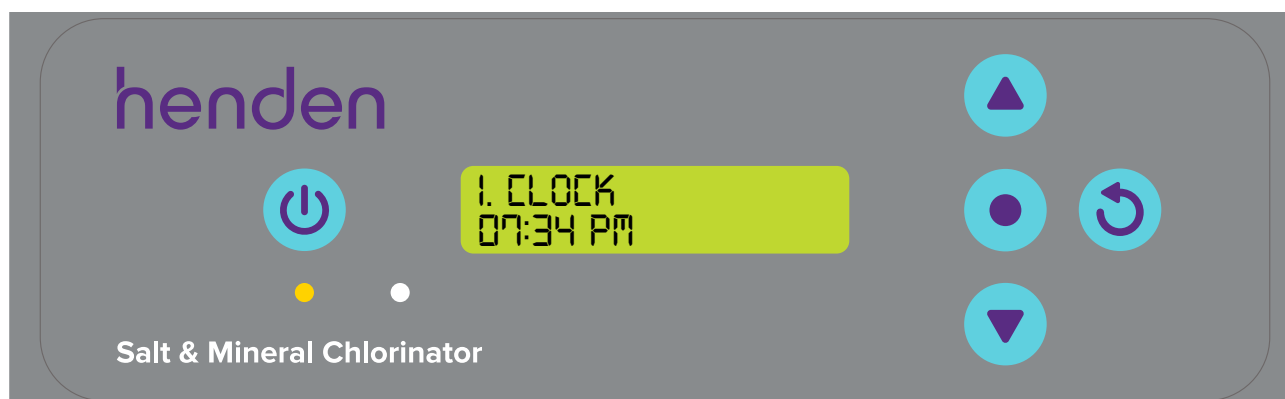

Figure 4.4
- > This screen shows the clock's current time (Figure 4.4 shows 07:34PM, having elected for 12 hour time format earlier);